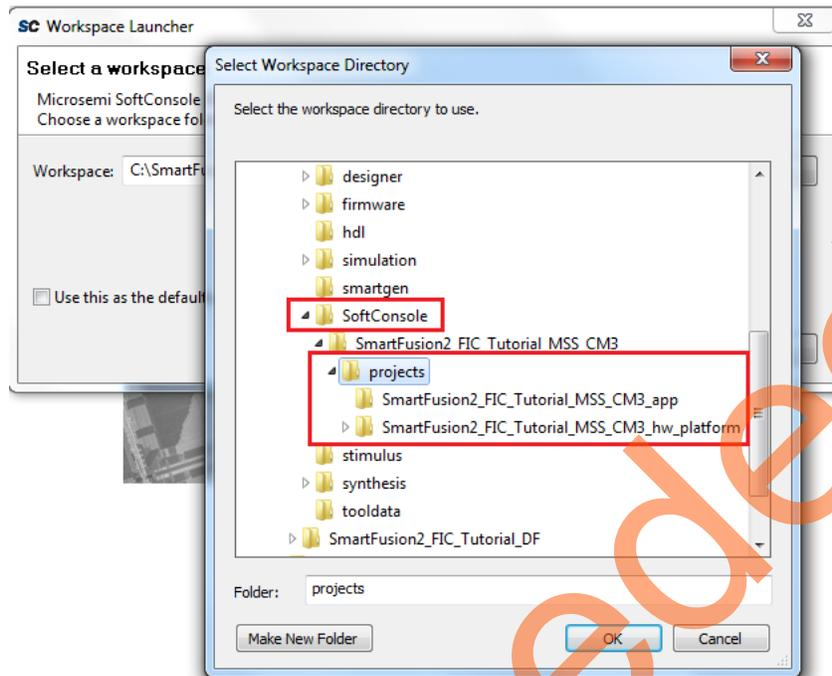

Figure 42 • Select Workspace Directory
7. Navigate to the **SoftConsole** folder and select **projects** folder as shown in Figure 42.